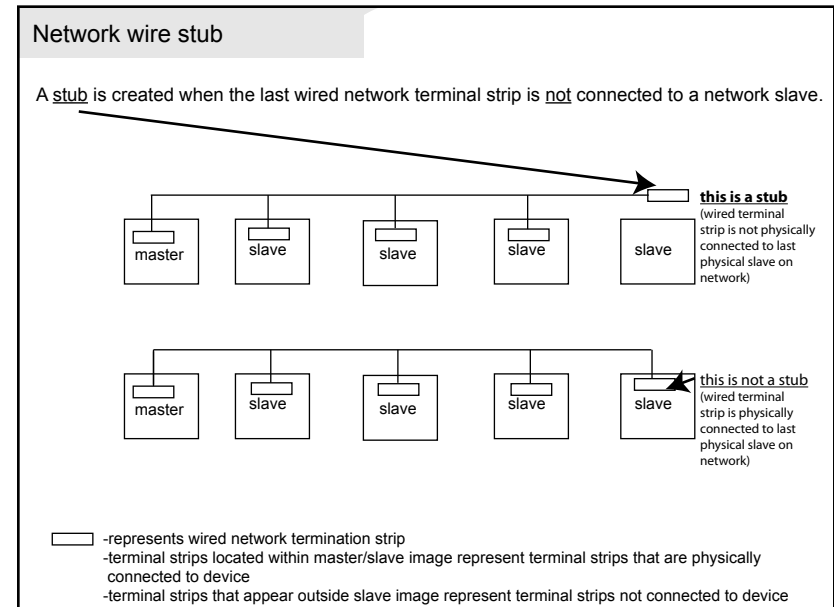

Figure 3.24
- *A stub is created when the last wired network terminal strip is not connected to a network slave - figure 3.24.
- **A stub is created when the last wired network terminal strip is not connected to a network slave - figure 3.24.